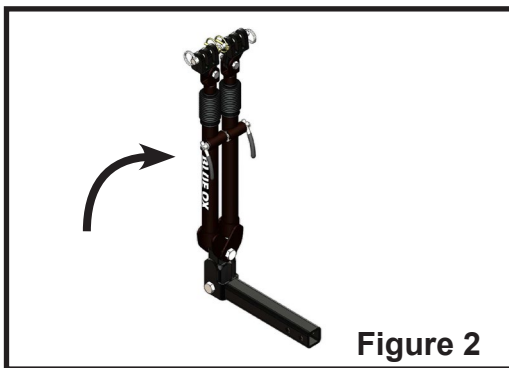

Figure 2
2. With legs together, swing them up towards the towing vehicle. (Figure 2).